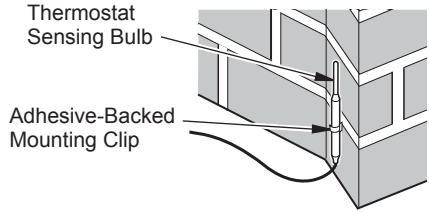
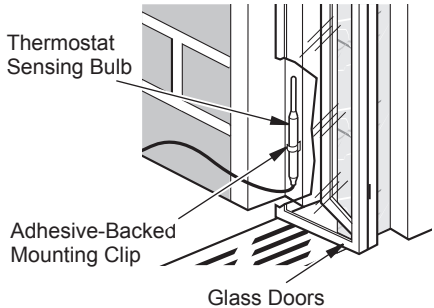
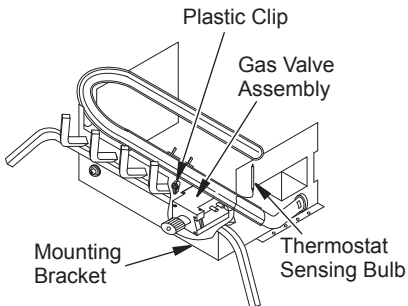

Figure 21 - Installing Thermostat Sensing Bulb on Masonry Fireplace
Figure 23 - Installing Thermostat Sensing Bulb behind Glass Door
Figure 20 - Removing Thermostat Sensing Bulb
3. The thermostat sensing bulb may be located to the lower right front side of fireplace. Determine location of sensing bulb, but do not mount sensing bulb until step 5. If you have a masonry fireplace, (see Figure 21 for location). If you have a factory-built metal fireplace, see Figure 20 for location. If your fireplace has glass doors, position sensing bulb directly behind door gap on right bottom side (see Figure 23).